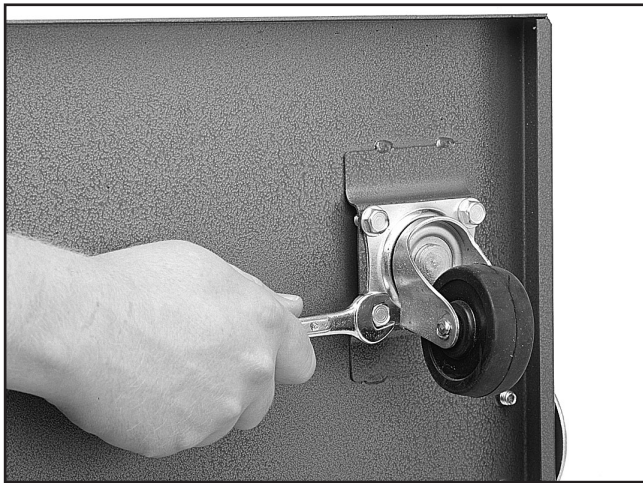

Figure 5. Mounting casters to base.
1. Position the base plate upside down and mount the casters to the base plate using (16) $\frac{5}{16}$ "-18 x $\frac{1}{2}$ " flange bolts, as shown in **Figure 5**.